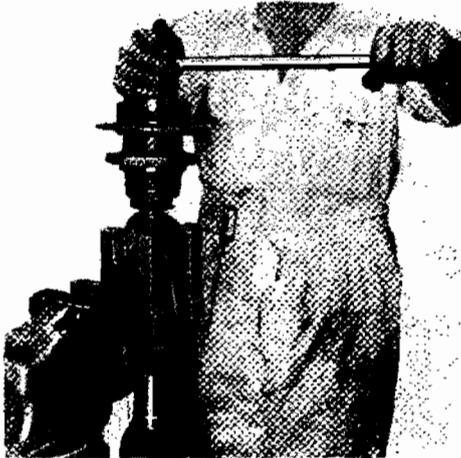
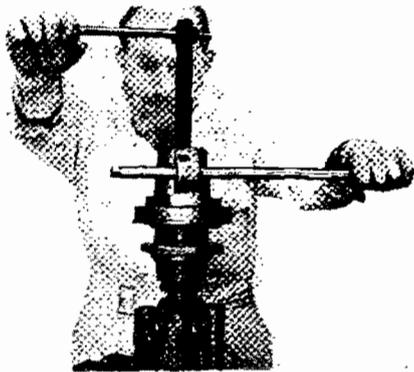

Fig. 42.
Fig. 43.
Mount the axle shaft in the holding fixture as shown on Fig. 42 and remove the nut (40), the washer (41) and extract the hub (43), see Fig. 43. The rear hub bearing housing assembly will be removed with the hub. Remove the key (55) and discard the collapsible spacer (47); remove the inner hub bearing cone (48), the bearing spacer (50) and the stone guard (51)